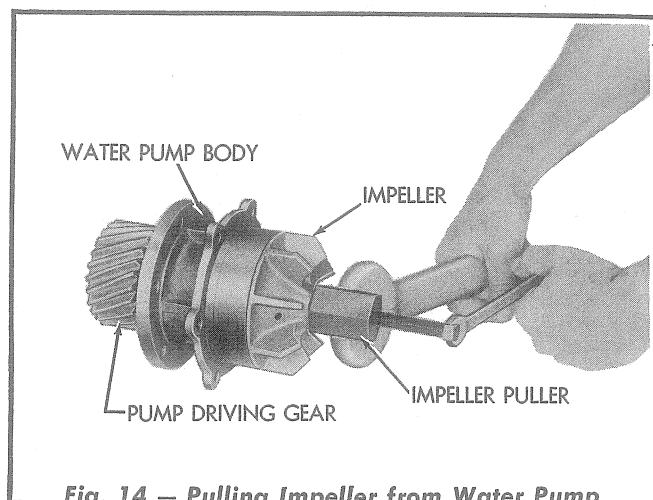

Fig. 14 — Pulling Impeller from Water Pump Shaft — First Type
- (1) Remove the capscrews and lockwashers attaching the impeller housing to the pump body and remove the impeller housing.
- (2) Remove the impeller retaining nut and washer from the rear end of the pump shaft. The hub of the impeller is threaded to facilitate removal of the impeller from the pump shaft. Using an impeller puller as shown in Fig. 14, pull the impeller from the shaft.
- (3) The coolant seal assembly is now accessible. If a seal assembly replacement only is to be made, it will not be necessary to remove the shaft assembly from the pump housing.
- (4) Remove the impeller washer and the seal spring assembly from the pump shaft. Remove the ceramic seat and the sealing ring from the pump body and the shaft.
- (5) Remove the cotter pin, slotted nut, and the gear retaining washer from the front end of the pump shaft. Using a suitable puller, pull the pump driving gear from the pump shaft. Remove the key from the shaft.